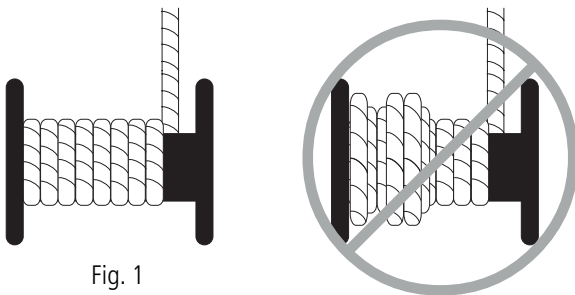

Fig. 1
- >> An even and adjacent unwinding of the cable on the winch drum should occur. (see figure 1)